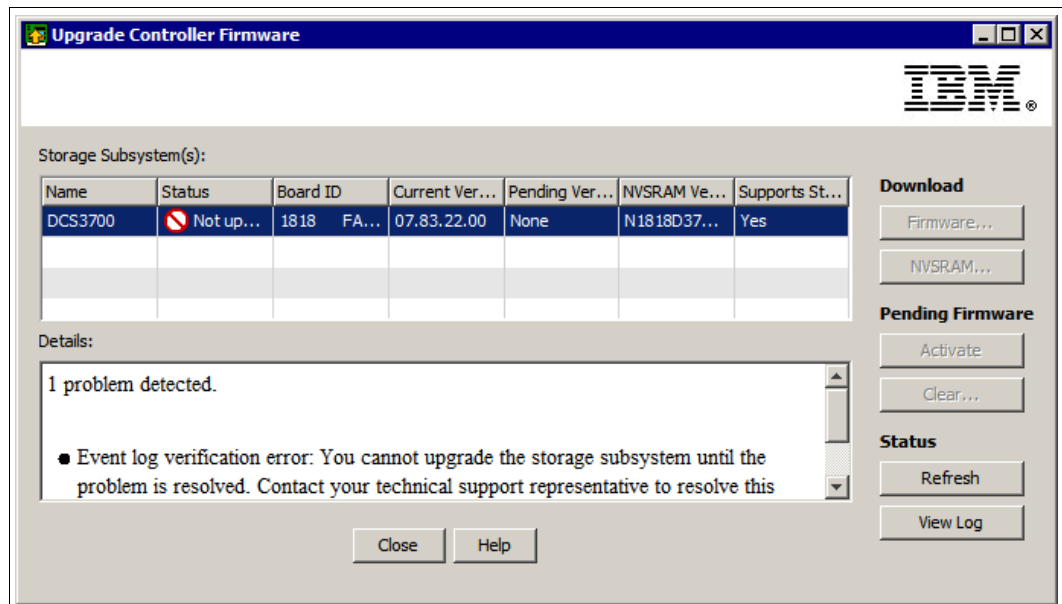
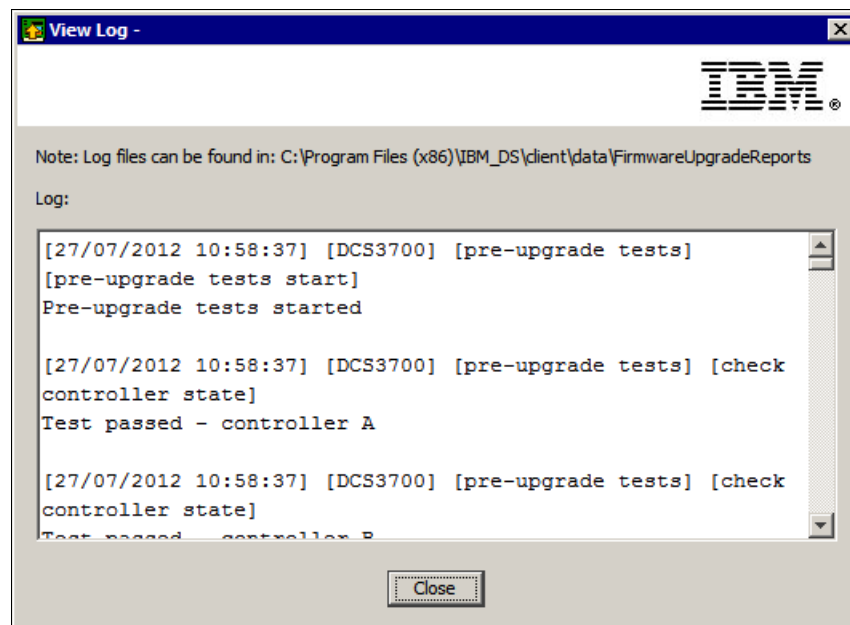

Figure 14-8 Upgrade Controller Firmware window
Figure 14-9 Viewing the firmware upgrade tool log
The storage management software checks for existing conditions in the storage subsystem that prevent a successful firmware upgrade before upgrading the firmware. If it detects one of these conditions, the firmware upgrade tool reports the status of the DCS3700 storage subsystem as *non-upgradeable* (see Figure 14-8 on page 432). Any of the following conditions can prevent the firmware upgrade:
**Note:** The location where the firmware upgrade tool log files are saved on your system is reported at the top of the firmware upgrade tool View Log window (Figure 14-9 on page 432).
- The Upgrade Controller Firmware window opens (Figure 14-8). In the example, the upgrade tool reports that the controller firmware is not presently upgradeable. The reason or reasons for this status is reported in the Details section of the upgrade tool window.
If the firmware upgrade tool reports a status of non-upgradeable, as shown in Figure 14-8, you can click **View Log** to review the cause of the non-upgradeable status. Figure 14-9 shows the upgrade log.